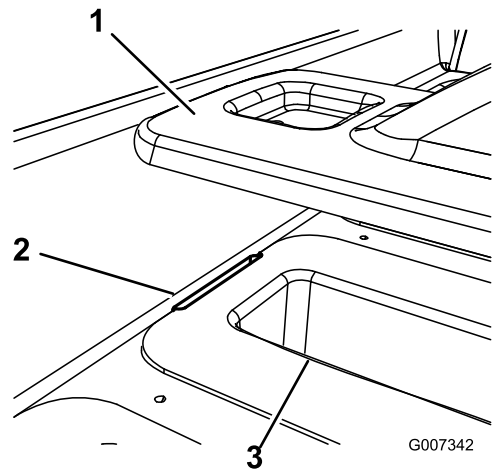

Figure 5
- H. Use the parking brake cover to locate the milled slot to be cut out by marking where the tab in the rear of the cover contacts the seat base (Figure 5).
- I. Remove the parking brake cover and cut a long (4.26 inches), slotted hole in the location marked to accept the tab (Figure 5).